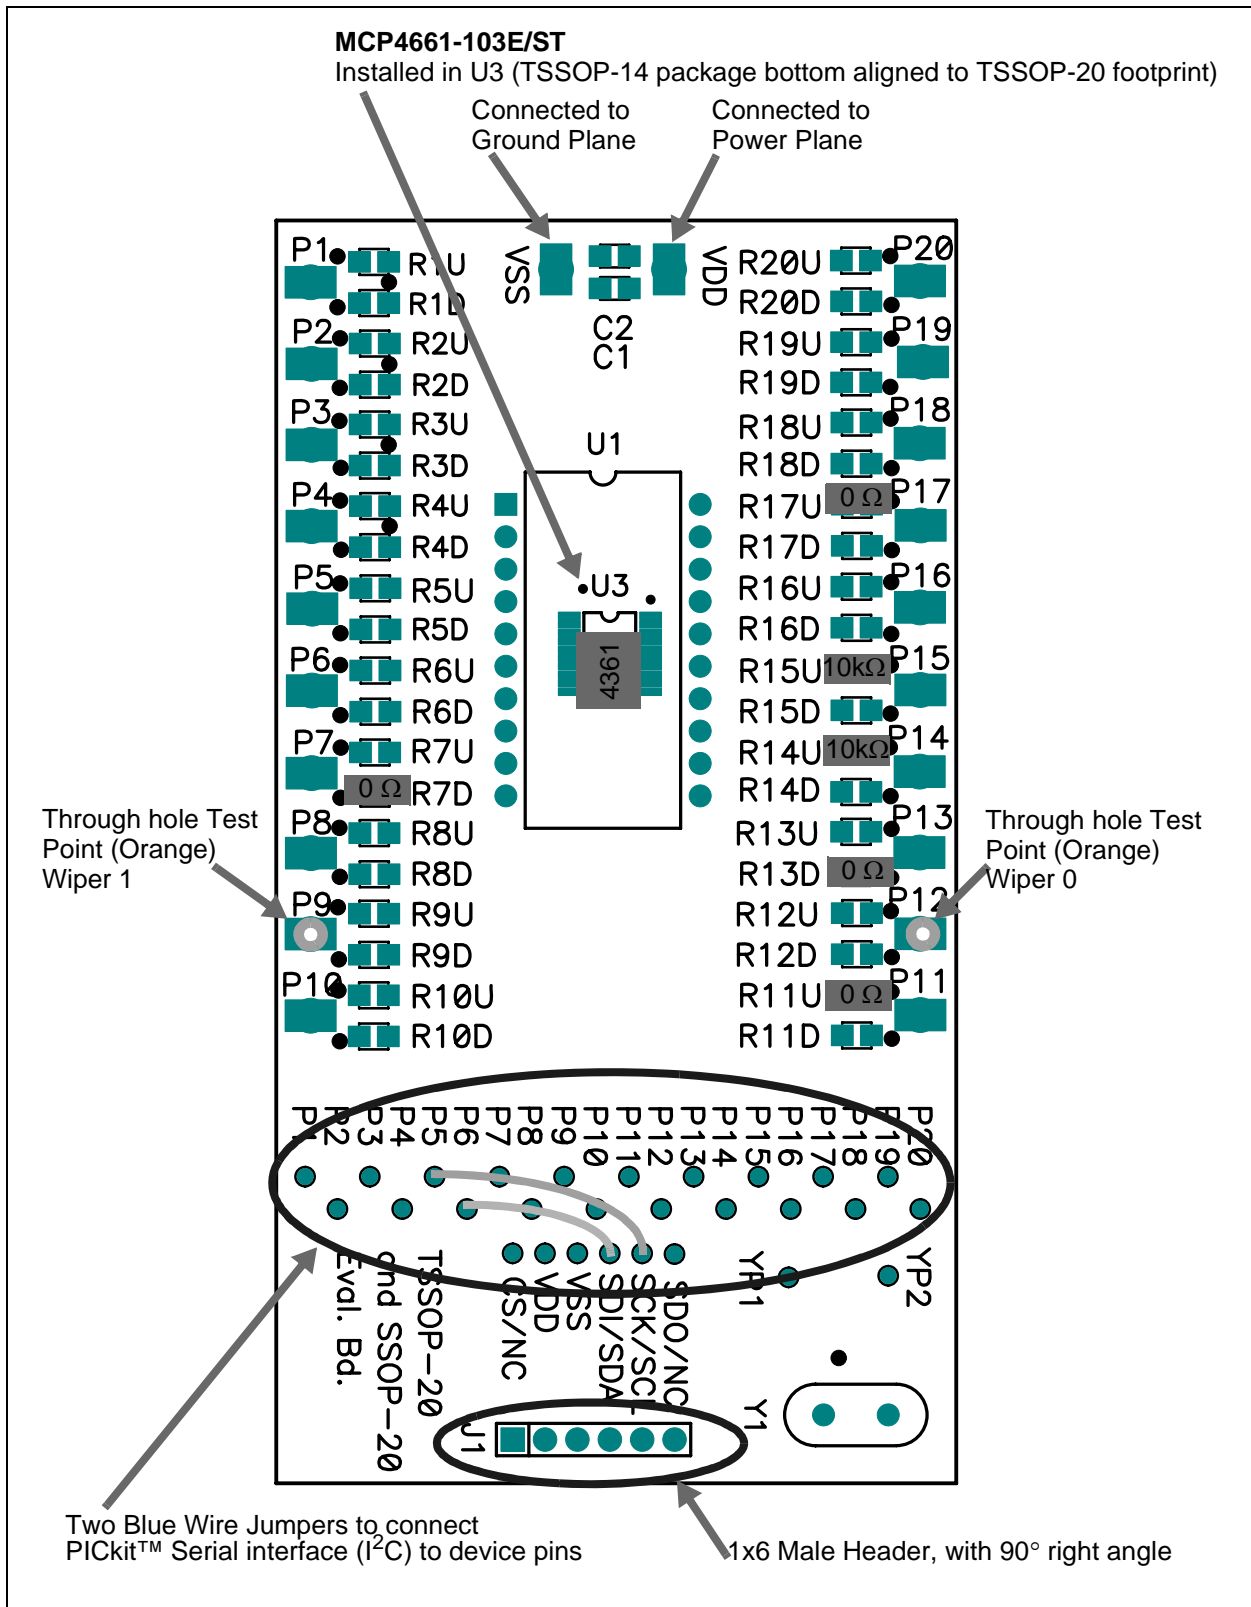

FIGURE 2-2: MCP46XXEV Evaluation Board Component Placement Using the TSSOP20EV Evaluation Board (Top).
Additional information on using the TSSOP20EV Evaluation Board PCB or for modifying the MCP46XXEV Evaluation Board is available in the TSSOP20EV User's Guide (DS51875). **Appendix A. "Schematic and Layouts"** has information on the PCB schematic and layout while Figure 2-2 shows components that are installed on the PCB.
- 0Ω resistors connect MCP4661 V_{DD} and V_{SS} signals to the appropriate power or ground plane (see Figure 2-2)
- 0Ω resistors connect MCP4661's Resistor Network 0 A terminal signal to power plane, resistor network is in a voltage divider configuration (see Figure 2-2)
- 0Ω resistors connect MCP4661's Resistor Network 0 B terminal signal to ground plane, resistor network is in a voltage divider configuration (see Figure 2-2)
Figure 2-2 shows the component layout of the MCP46XXEV Evaluation Board. This is a small four-layer board (3.9" x 2.1" (99.06 mm x 53.34 mm)). There are twenty-two connection points/pads that can use either through-hole or surface-mount connector posts.